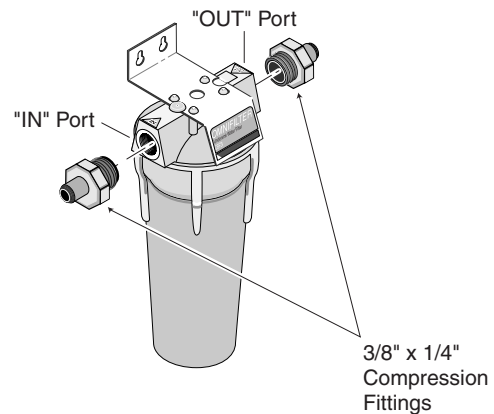

Figure 7
4. Install the two threaded compression fittings in the Filter Housing. See Figure 7.